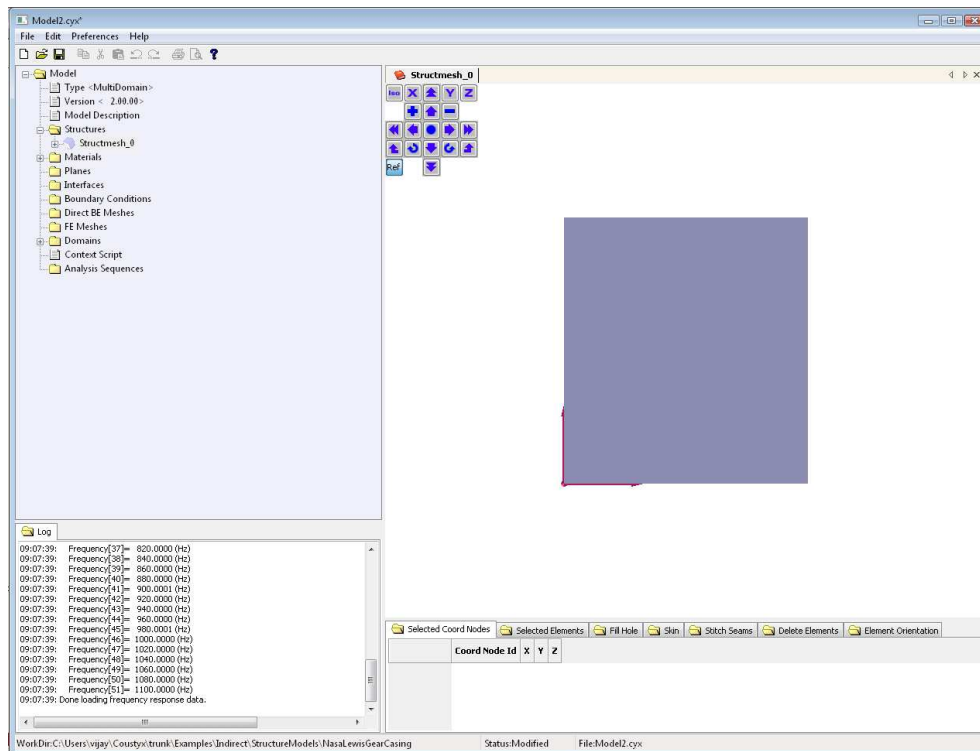

Figure 9.7: Structure mesh opened in Coustyx GUI.
- Right-click on **Structmesh_0** or $\langle Struct Mesh Name \rangle$ and select: **Open** to view the structure mesh in the GUI. The structure mesh will appear as shown in Figure 9.7.